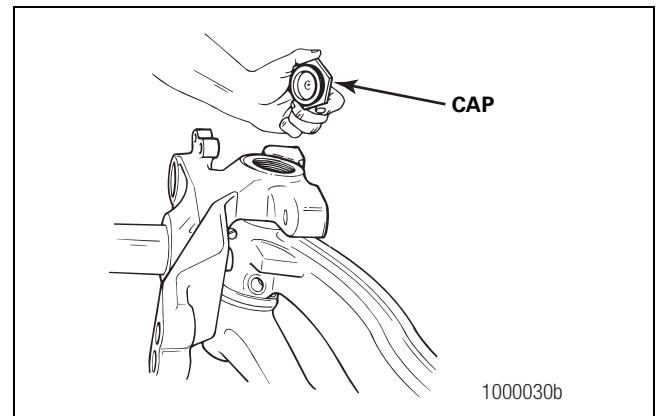

Figure 4.20
5. Remove the top and bottom king pin caps. Depending on the axle configuration, the top and bottom king pin caps may be different part numbers. Mark the top and bottom king pin caps for correct reassembly. Figure 4.20.